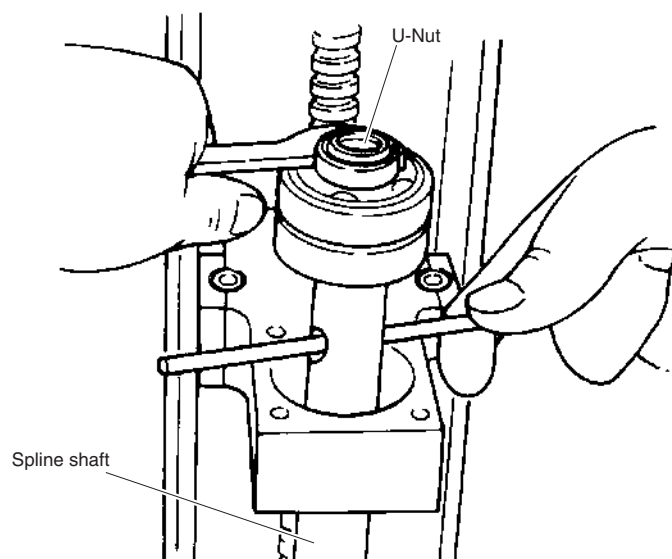

Fig. 5-20
- 8) While holding a steel rod or similar tool through the 10mm diameter hole as shown, use the hook spanner to remove the U-nut on the spline shaft and then remove the bearing. (See Fig. 5-20.)
- 23) Insert the spline shaft into the holder, fit the bearing onto the spline and tighten the U-nut to secure the bearing. (Utilize the φ10 through-hole when tightening the U-nut like you did to loosen it.) (See Fig. 5-20.)